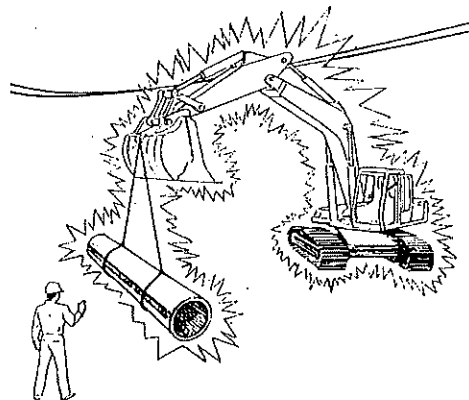

Figure 31-24: Stay Clear of Machine During a Powerline Contact
- 2) Keep others away. Warn them not to touch the load, load lines, boom, bucket, or any other part of the equipment (Figure 31-24).